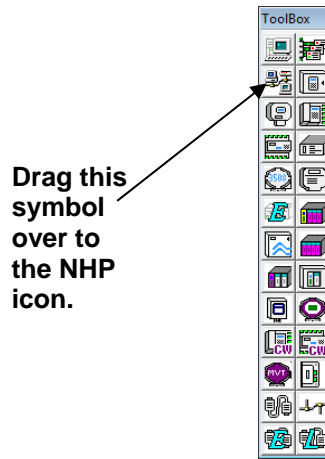

Figure 4-9. Starting the Network Wizard – Method 2
- The other way to activate the Network Wizard is to first click **View>Toolbox** from the menu bar. This activates the Toolbox. (see *Figure 4-9*). Now drag the IP network symbol over to the NHP icon. This activates the Network Wizard.